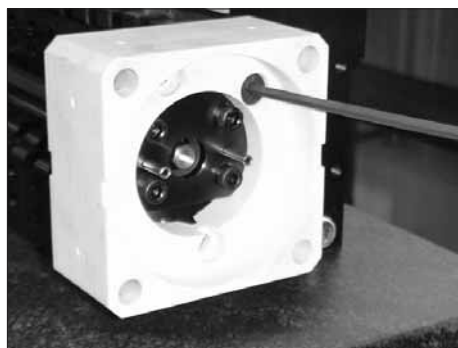

Figure 7-87 Installing the drive adapter
1. See Figure 7-87. Using an M4 hex wrench, install the drive adapter (three shoulder bolts).